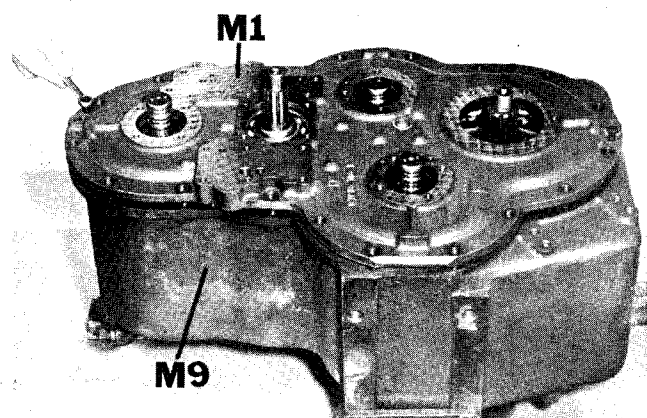

Figure 54
15. Assemble main cover (M-1) to case (M-9) using 19 lockwashers and 19 capscrews. Torque to 70-75 ft. lbs. (Figure 54).